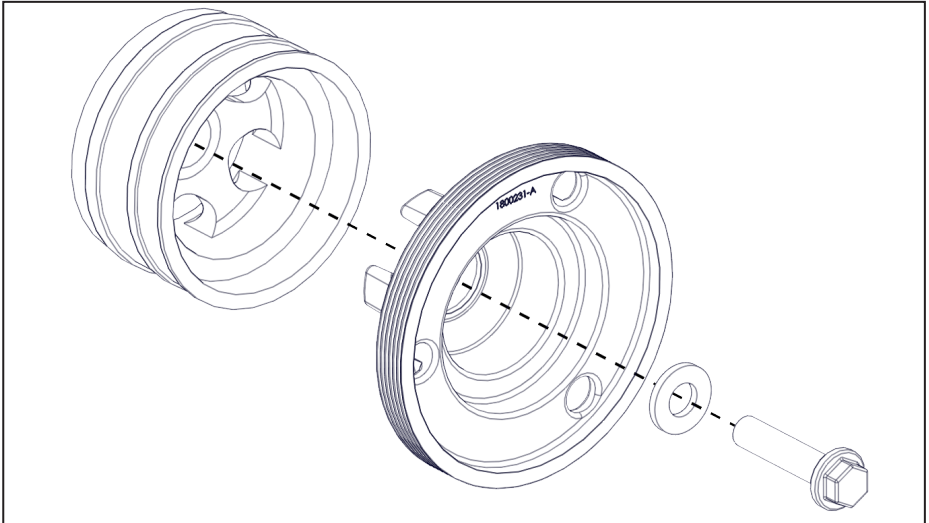

Figure 8 — Crank pulley installation
- Install the OEM fastener with the supplied washer (Figure 8).